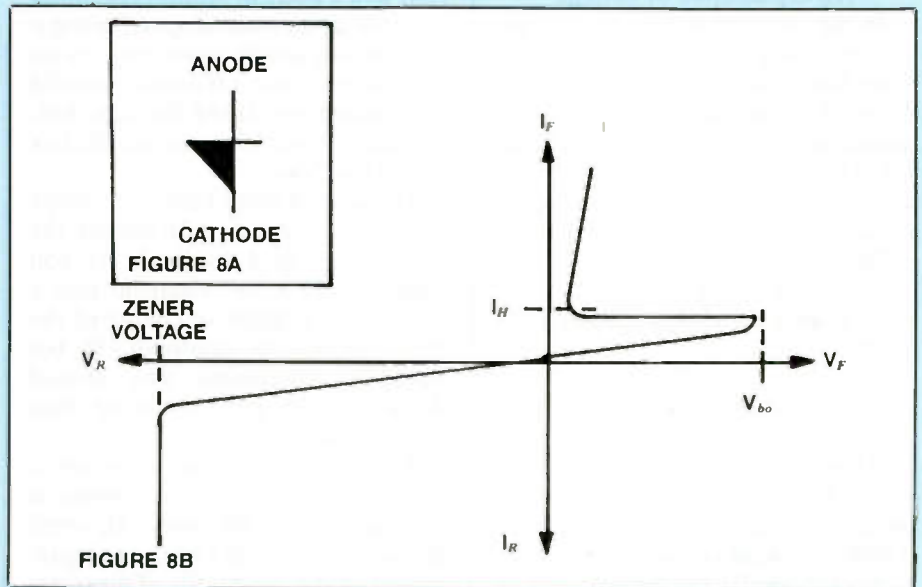

Figure 2
4. The symbol in Figure 2 is for a _____.